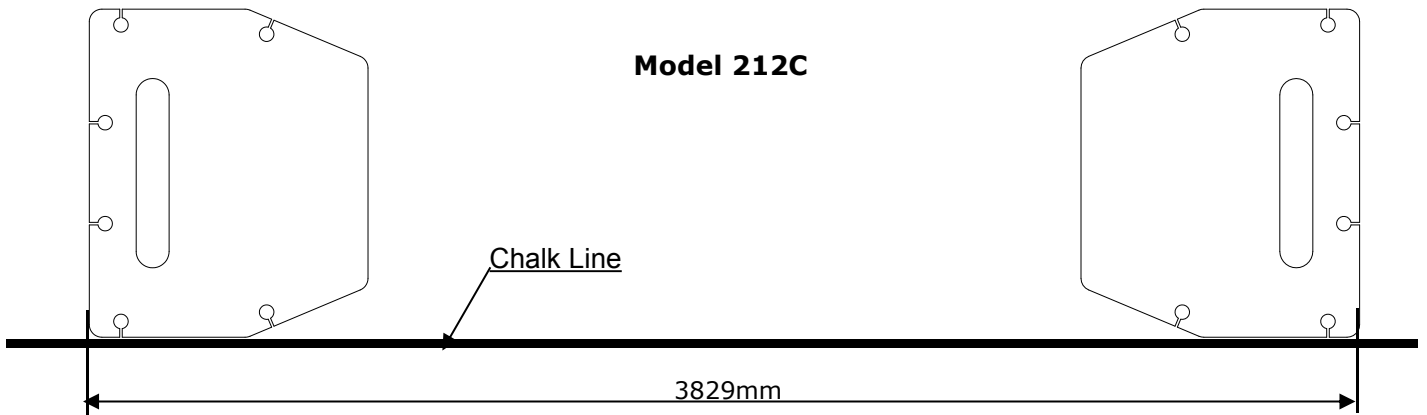

Fig. 6
B. Use a carpenter's chalk line to establish installation layout of base-plate (**See Fig. 6**).